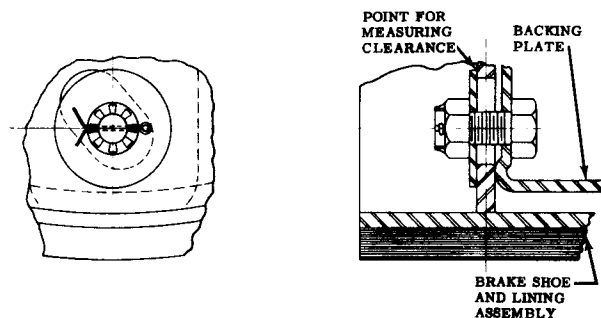

FIG. 2 - NEW TYPE
3. With a feeler gage, check the clearance between the brake shoe and the flat washer of the guide pin assembly at the point indicated in Fig. 2. The clearance should be between .007" and .014".